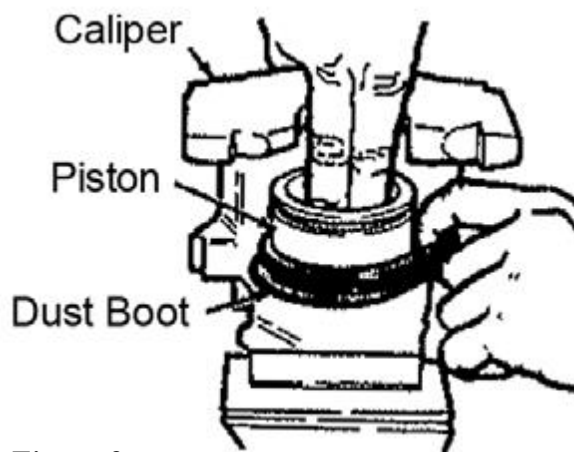

Figure 2
17. Plug high pressure inlet to caliper, then coat piston with brake assembly fluid. With fingers spreading boot, work piston into boot and press down on piston. The entrapped air below piston will force boot around piston and into its groove as piston is depressed. Remove plug and carefully push piston down until it is bottomed. (Fig. 2)